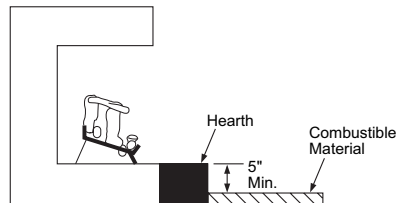

Figure 9 - Minimum Fireplace Clearances Above Combustible Flooring
- B. If combustible materials are less than 14" to the fireplace, you must install appliance at least 5" above the combustible flooring (see Figure 9).